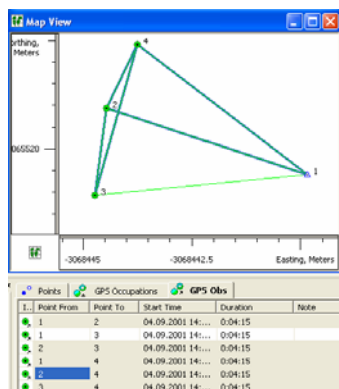

Figure 6-34. Select Vectors the Form a Loop
2. On the main screen (Map View or *GPS Observations* tab) select static GPS observations that form a loop(s) (Figure 6-34).